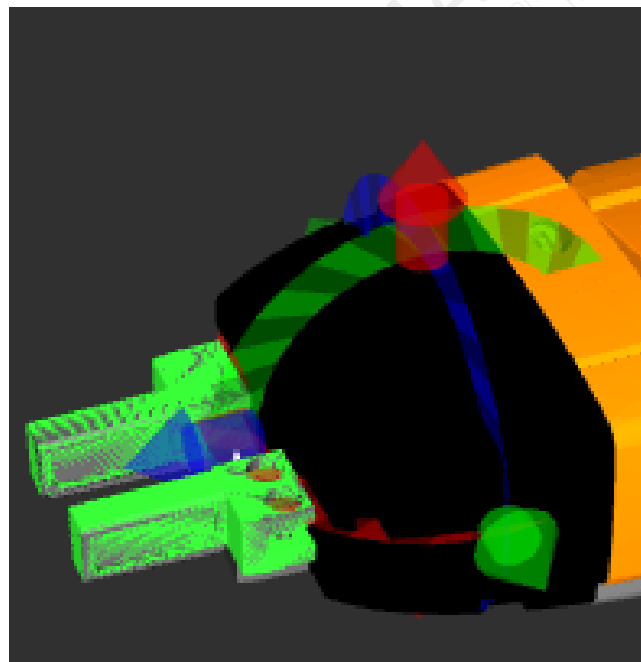

Figure 11: MoveIt! Marker
2. Move the marker displayed in figure 11 to a desired position or simply click "Update" in "Select Goal State:" when "<random valid>" is selected.